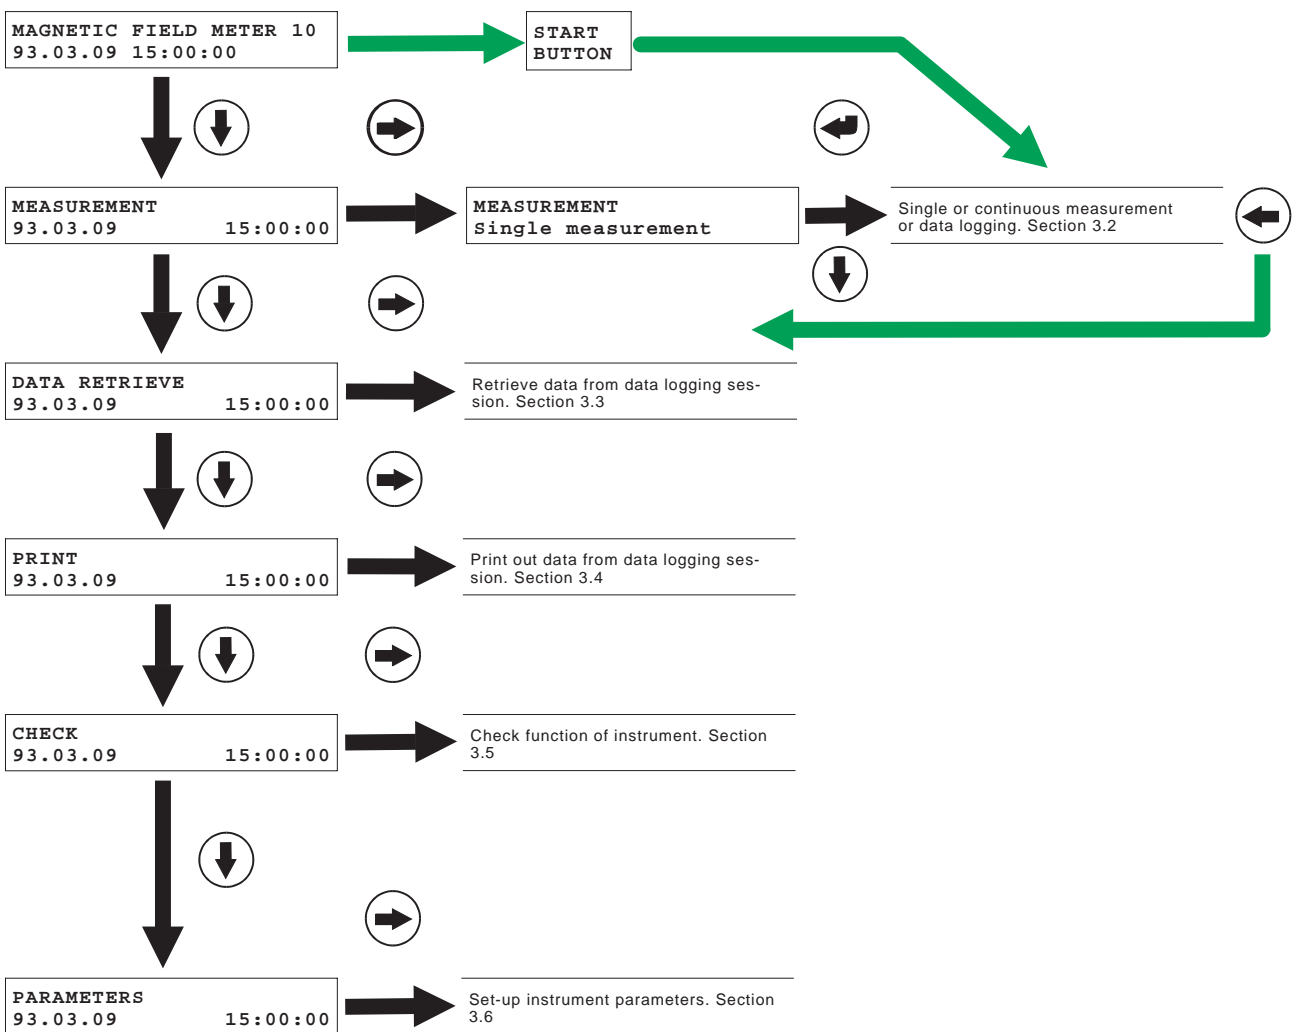

Fig. 3.3 MFM 10 Function Modes
- SCROLL (⬇️) Goto next function, sub-function result or value (see Fig. 3.3)
- QUIT (⬅️) Quit the selected function and return to the next level (see Fig. 3.3).
By using the four keys on the control panel, all functional modes of the instrument can be accessed. The available functions are shown in the flow diagram, Figure 3.3. The key presses required to select the function or enter values are also shown.
Switch on the MFM 10 using the ON/OFF button. Single measurements can be initiated by either using the control panel keys, as shown in Fig. 3.3, or alternately by simply pressing the 'green' start button and wait until the "Waiting for start" message appears.
Select DATA RETRIEVE as shown in Fig. 3.3, press the SELECT key to enter the mode. The following display is shown: